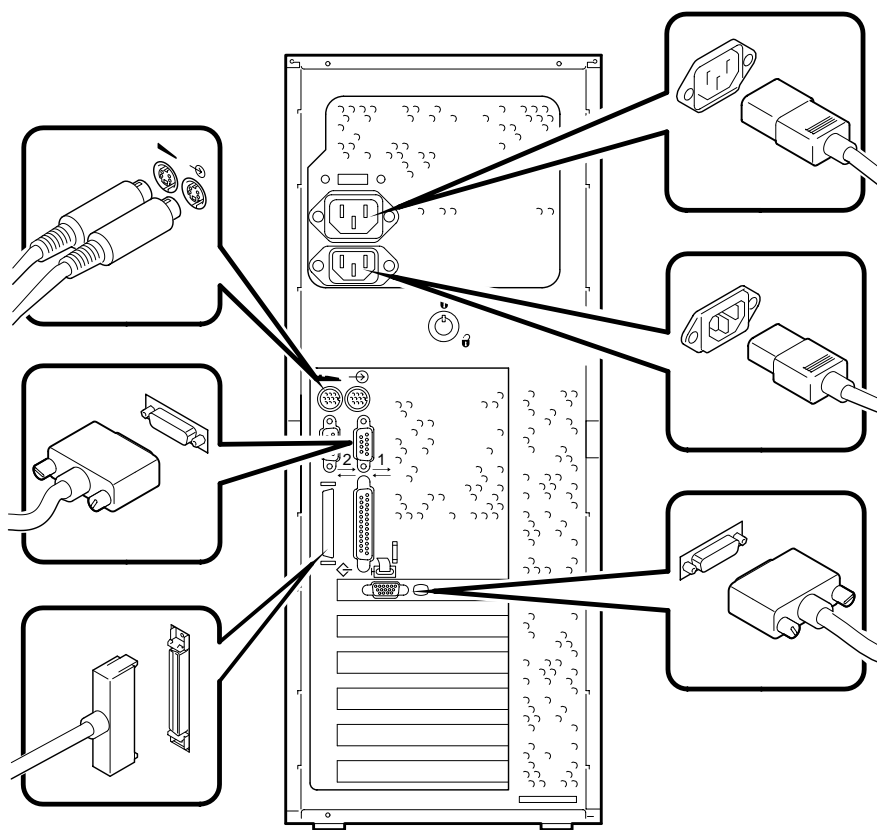

Figure 1-5. Connecting Cables and Power Cords
3. Connect the mouse, keyboard, video or terminal cable, and power cords to the system components, as Figure 1-5 shows.